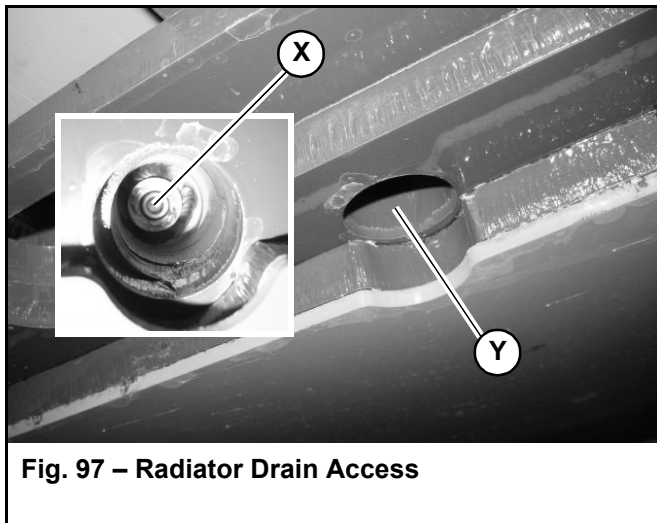

**Fig. 96 – Radiator Cap**
5. Slowly loosen radiator cap (P, Fig. 96) and allow pressure to escape. Remove cap.